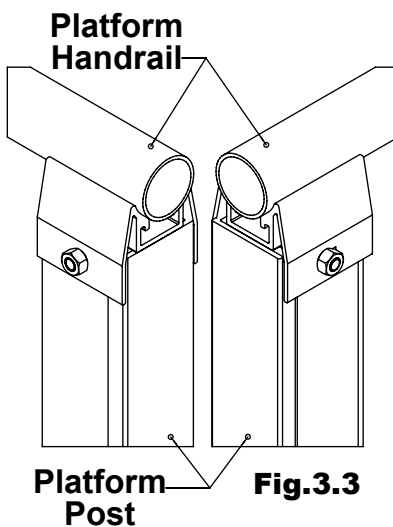
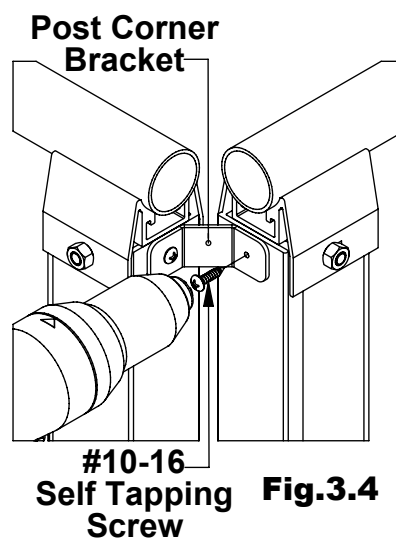

Fig.3.3
Fig.3.4
3.2 POST CORNER BRACKET INSTALL: Once all handrail has been attached to platform the post corner brackets will need to be installed in all corners where handrail meet (Fig.3.3). Place bracket in the corner with the pilot hole in the bracket centered on the platform post, and the edge flush up against the handrail bracket attached to the platform post. Using a self-tapping screw and cordless drill attach the post corner bracket to platform post (Fig.3.4). **NOTE:** If corners do not line up perfectly it may be necessary to force the second post into the proper position.